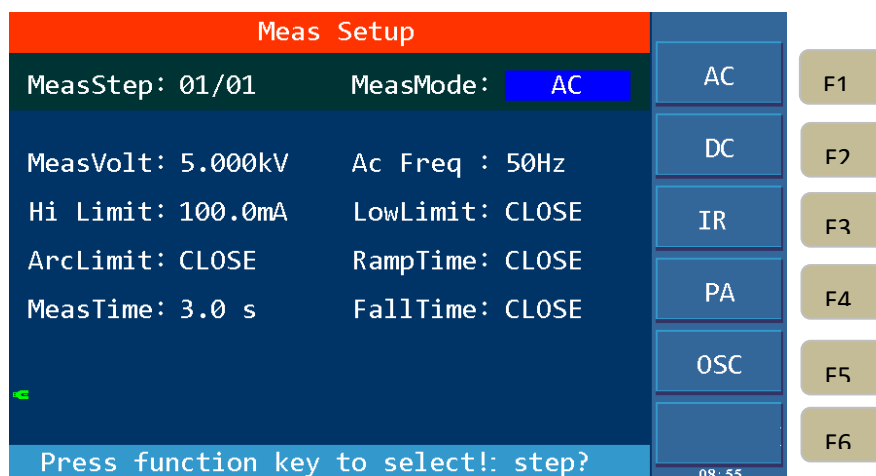

Figure 4-10 Meas Mode Setup
3. Press `[[▼]]` to move the cursor to the port format setting and enter the setting page shown in Figure 4-10.
3. Press the right arrow key to move the cursor to the test mode option, as shown in Figure 4-10, uses the F1~F5 keys to select the test mode. TH9120A has test mode of AC withstand voltage, pause mode, open short circuit detection OSC and pin detection. TH9120D has test mode of DC withstand voltage, insulation resistance, pause mode and pin detection.